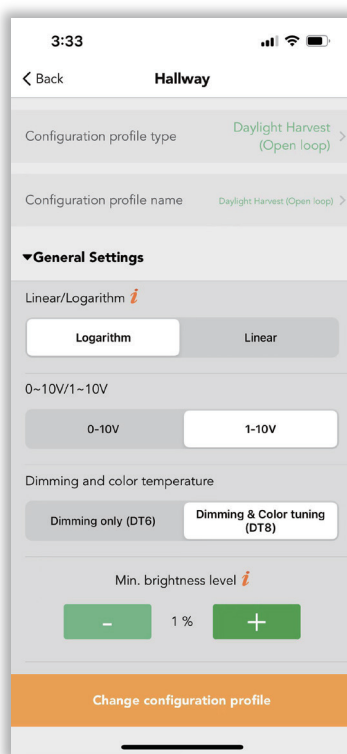

Figure 17.2 Modify profile
1. Modify a configuration profile which enable to create a new profile or select the profile from system default setting. Before user start to configure the profile, user need to click “change configuration profile” first. Like zone Hallway (see figure 17.2). Then there is  which enable user to get a shared configuration profile via scan the QR code or key in the encrypted randomized key. There are 7 system default setting in Koolmesh app which enable user to choose according to their real application, but those profile with  means cannot edit or share and delete. For these profiles created by user can be edit/ share and delete (see figure 17.3).